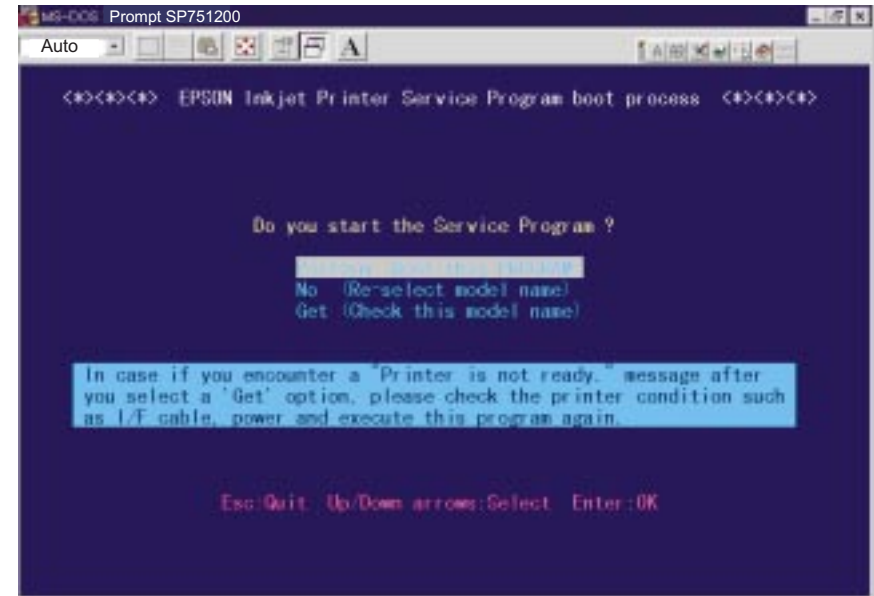

Figure 5-4. Starting the Program
6. Select "World" and press "Enter" key. The screen like figure 5-4 will appear.